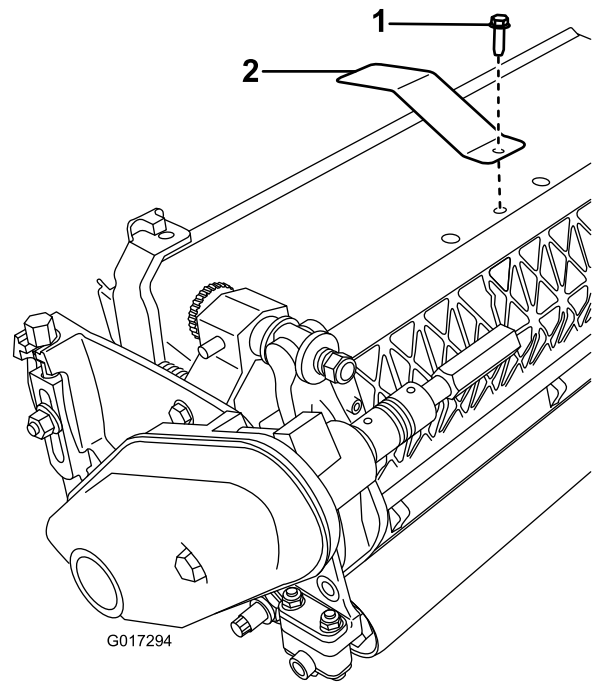

Figure 13
2. Remove the center, grass-shield bolt (Figure 13).
3. Install the target plate to the top of the cutting unit (under the plastic cowling) using the bolt that you removed previously (Figure 13).